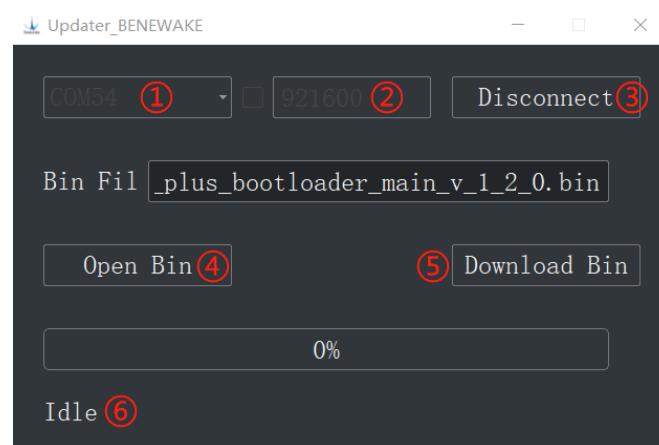

Figure 7 Firmware Upgrade PC software of TFmini Plus
Open the PC software and select “① TFmini Plus” and select automatically recognized occupied serial port (here it is “② COM57”), as shown in Figure 7